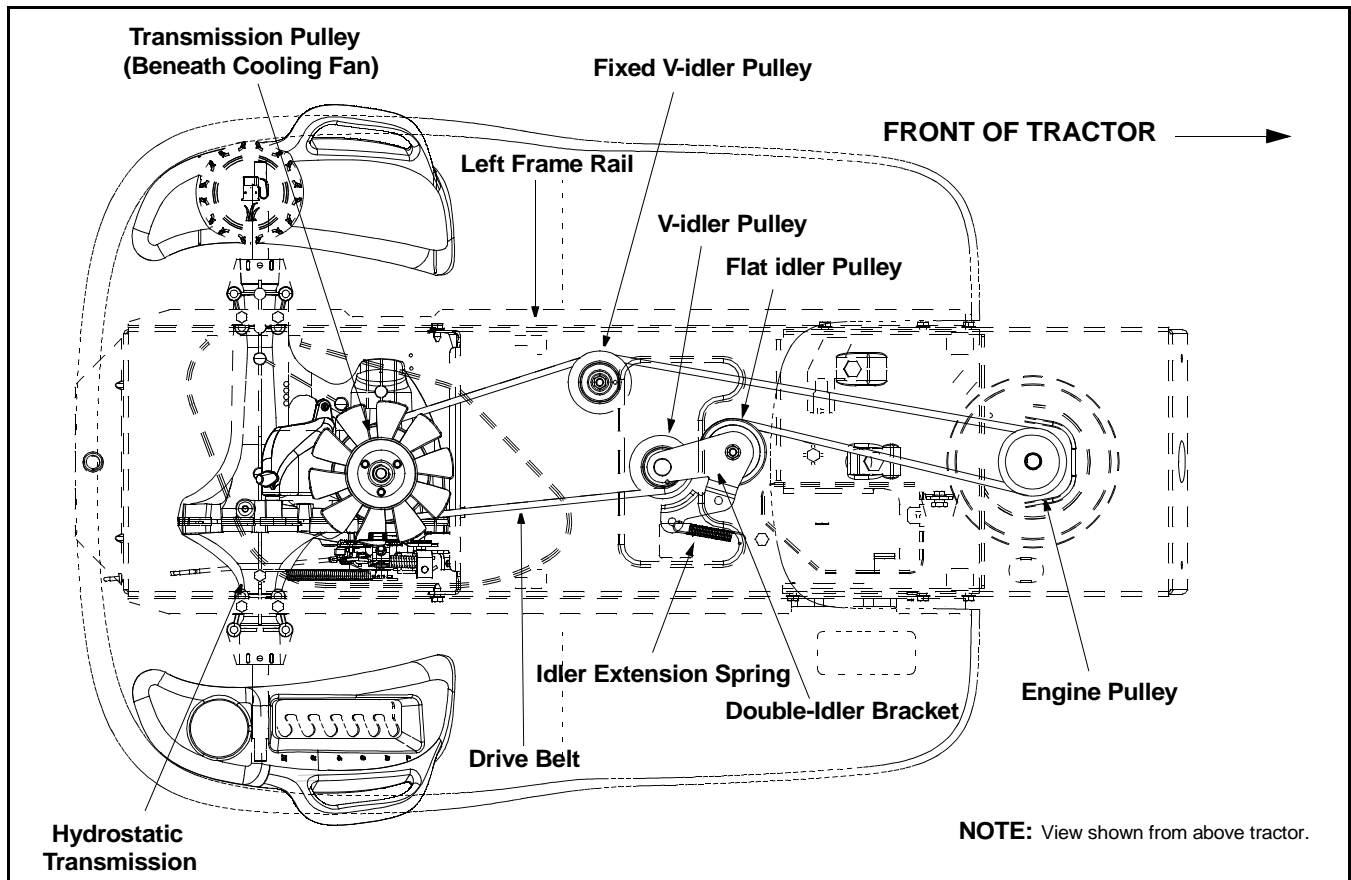

Figure 29
IMPORTANT: Note the routing of the drive belt both on the tractor and in Figure 29 BEFORE performing the following steps.
- Locate the fixed v-idler pulley found on the left underside of the frame. See Figure 29.
- Grasp the belt on each side of the pulley and carefully move it toward the left frame rail, then downward to disengage the belt from the fixed idler pulley. See Figure 29.
- Remove the drive belt by feeding it from front to rear, toward the hydrostatic transmission. See Figure 29.
- Install the new belt routing it EXACTLY as the old one was routed. Refer to Figure 29.